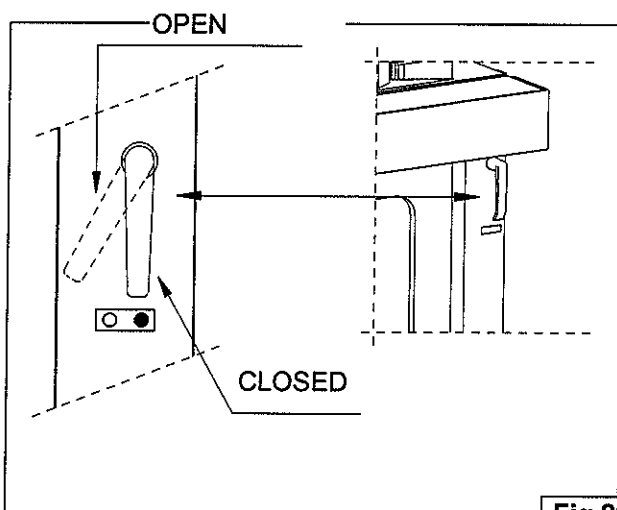

Fig.29
Close and lock the door; close the manual lock on the steam box (**Fig. 29**); set a temperature of 60°C and switch on the fan ♻; press the START button ⬢. The set of elements starts to operate and after a few minutes, when it reaches the temperature set, it should go off.
- Ascertain that the correct temperature is set on the thermoregulator ①
- Open the manual steam vent as shown in **Fig. 29**